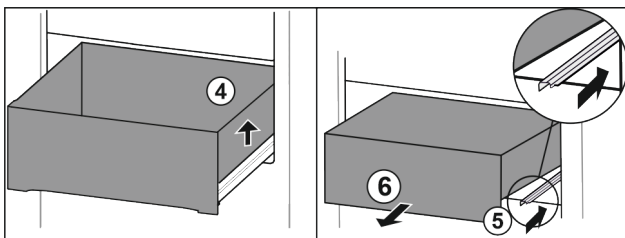

Fig. 78
- ▶ Lift drawer on the right. Fig. 78 (4)
- ▶ Insert right rail. Fig. 78 (5)
- ▶ Remove drawer to the front. Fig. 78 (6)